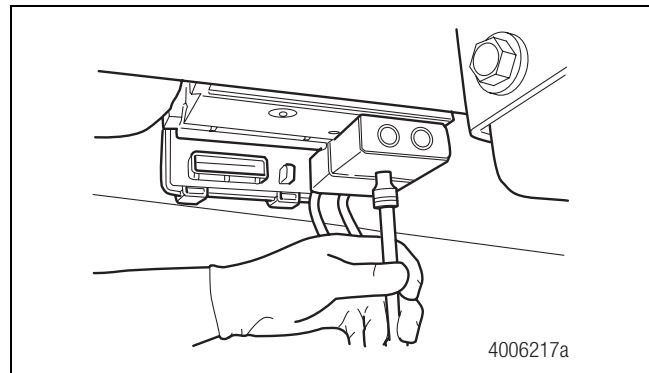

Figure 2
9. Use a 4 mm socket wrench to loosen and remove the five Allen-head screws that secure the relay valve to the hydraulic compact unit (HCU). Figure 2.